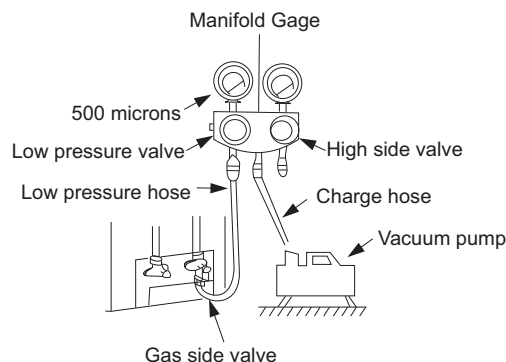

Fig. 6 — Manifold
3. Fully open the low pressure valve of manifold gauge (see Fig. 6).